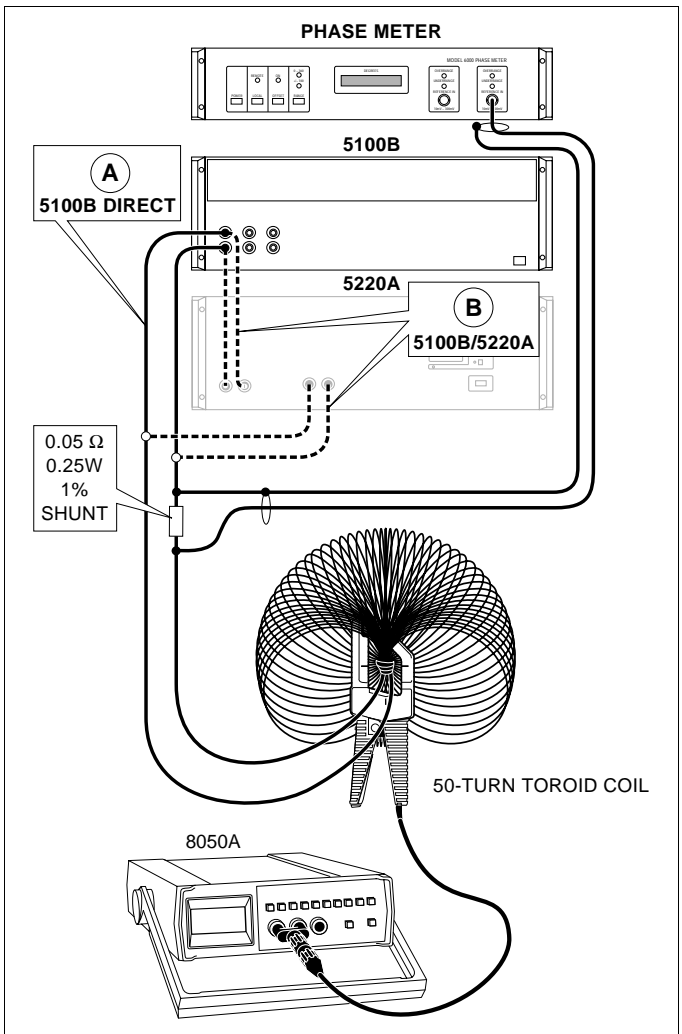
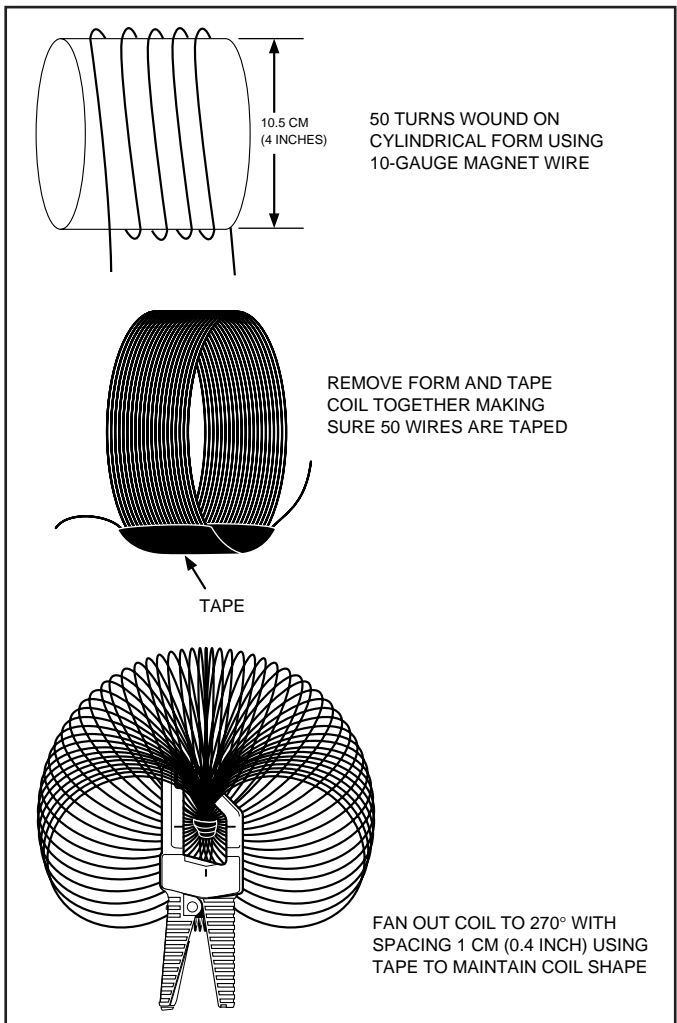

Figure 4. Performance Test and Calibration Setup
Figure 5. Toriod Coil Construction
Verify probe accuracy with the test setups shown in Figure 4. Required test equipment is defined in Table 1. Toriod coil construction is illustrated in Figure 5. First setup Connection A, and makes the checks called for in Table 2. (Connect the output of the probe directly to the signal-in on the phase meter for the phase check.)
50-Turn Toriod Coil	(See Figure 5.)
1. Connect test equipment as shown in Figure 4 (Connection B) and allow 30 minutes for stabilization. (Do not have the shunt connected during the calibration procedure.)